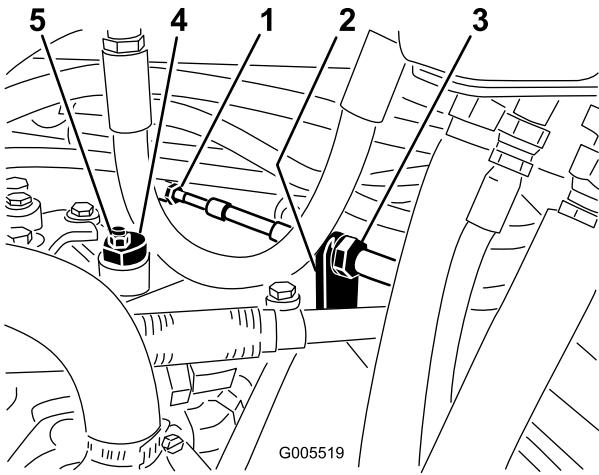

Figure 55
- A. Loosen both jam nuts securing the traction control cable to the bulkhead on the hydrostat (Figure 55). Make sure the jam nuts are loosened equally and sufficiently to allow adjustment.
**Note:** Loosen the nut securing the eccentric to the top of the hydrostat (Figure 55).
adjustment (Figure 55). Verify the adjustment with the throttle in the Slow and Fast position.
- D. From each side of the bulkhead, tighten the locknuts evenly, securing the traction cable to the bulkhead (Figure 55). Do not twist the cable.